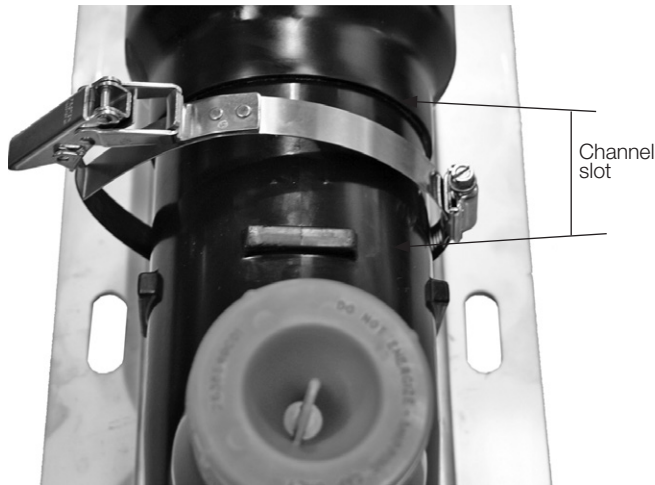

Figure 12. Clamping fuse
- Place the EMF fuse on the base brackets. Align the clamp straps with the channel slots around the smallest diameter sections of the fuse. See Figures 12 and 13.
- Engage the clamp straps into the buckles and close the buckles. See Figure 12.